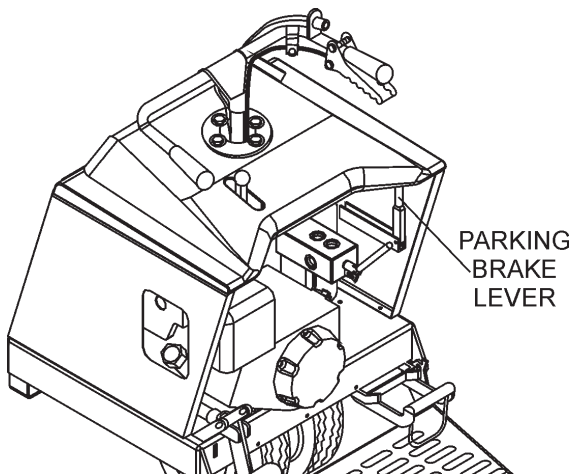

Figure 16. Parking Brake Lever
2. Engage the **parking brake** (Figure 16).
1. Engage the **parking brake lever** (Figure 16) and attempt to rock the buggy back and forth. If the wheels turn during the rocking motion adjust the brakes as outlined in the maintenance section of this manual.